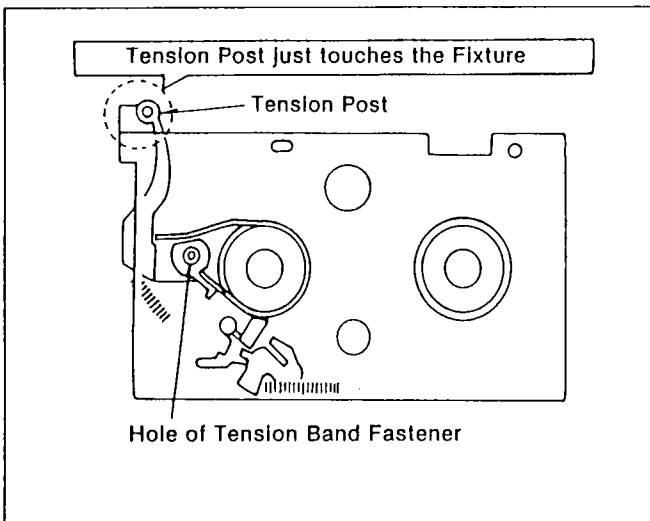

Figure M27
4. Place the Adjustment Plate and insert the hex wrench into the hole of Tension Band Fastener as shown in Figure M27.